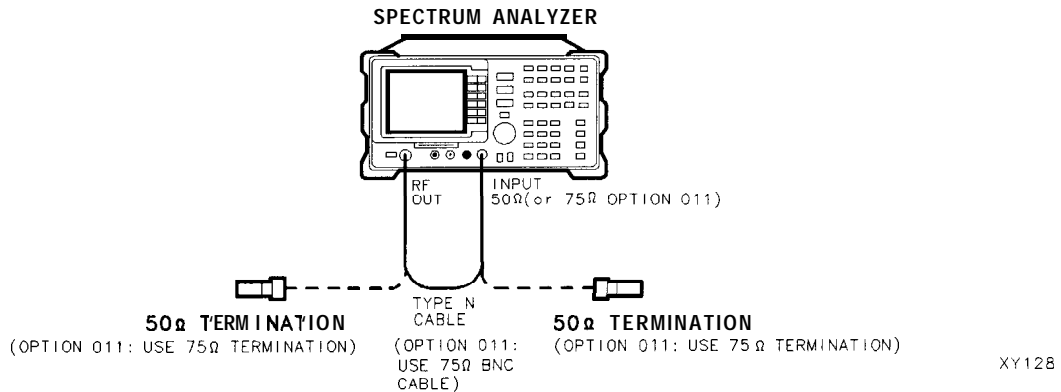

Figure 1-29. Tracking Generator Feedthrough Test Setup
1. Connect the Type N cable between the RF OUT 50 Ω and INPUT 50 Ω connectors on the spectrum analyzer. See Figure 1-29.